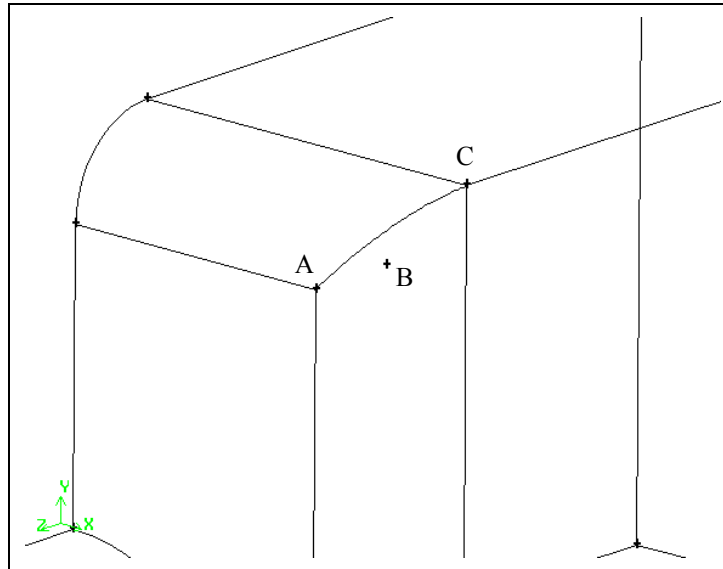

Figure 4-14: Vertices to be selected to create edges
*The vertex will be visible in the graphics window as a white cross near where the two blended edges meet. See vertex B in Figure 4-14.*
- a) *Shift*-left-click the vertex marked A in Figure 4-14.
- b) *Shift*-left-click the vertices marked B and C in Figure 4-14, in order.